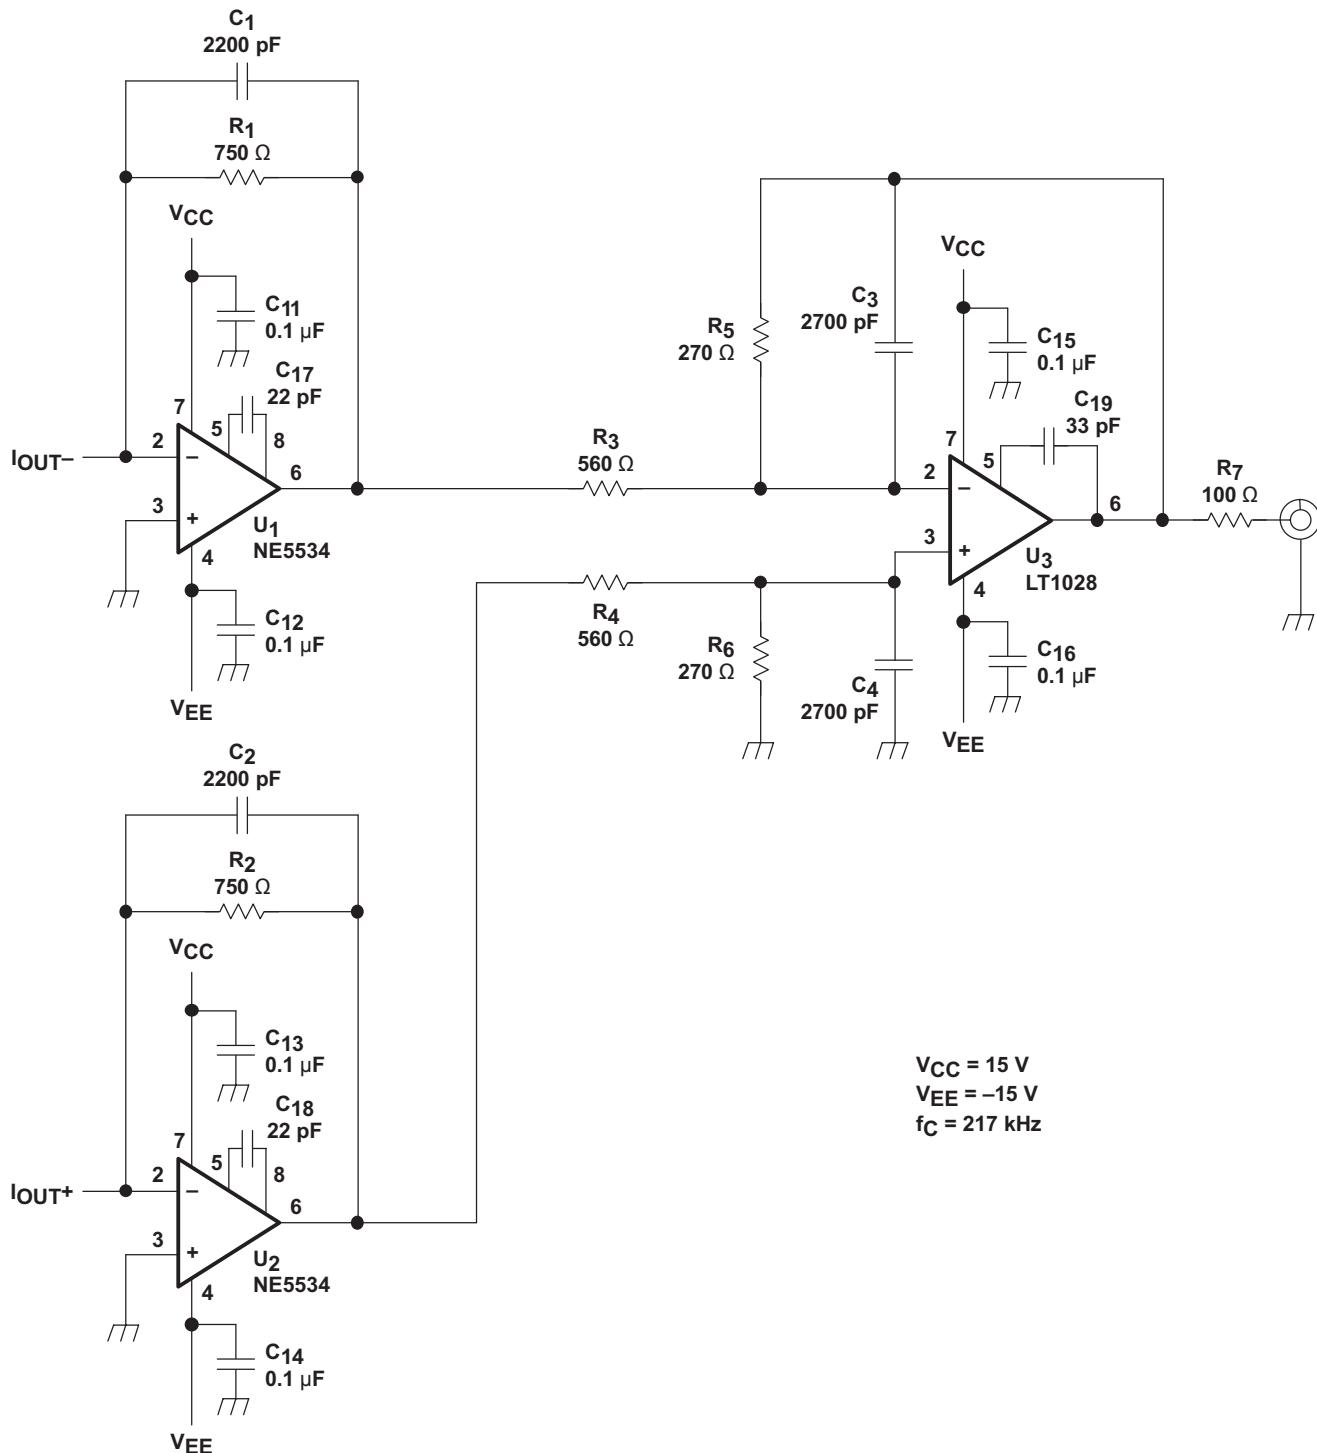
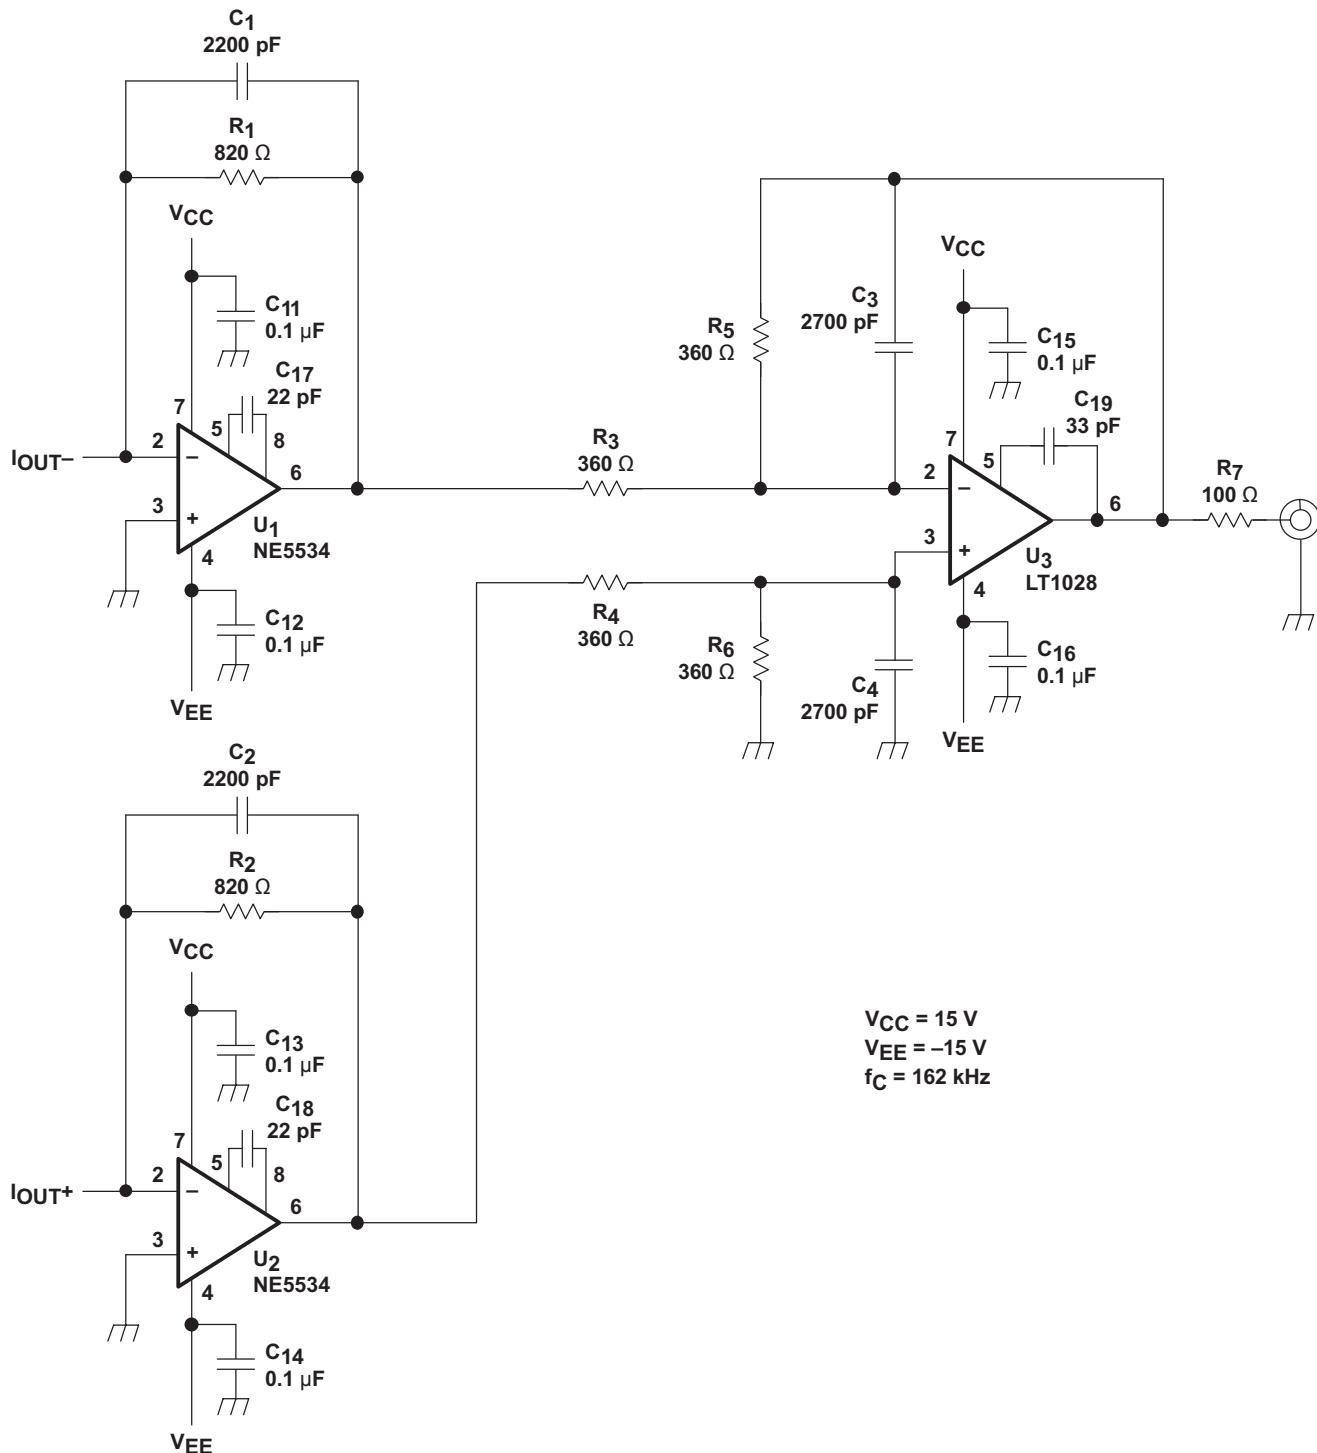
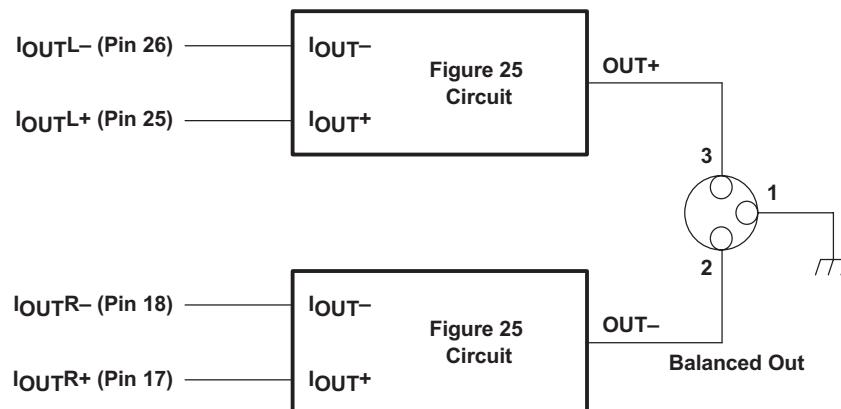

Figure 25. Measurement Circuit, $V_{OUT} = 2 \cdot V_{RMS}$
Figure 26. Measurement Circuit, $V_{OUT} = 4.5 \cdot V_{RMS}$
Figure 27. Measurement Circuit for Monaural Mode
(1) V_{OUTN} is the output of U1, V_{OUTP} is the output of U2, and V_{OUT} is the output of U3 in the measurement circuit of Figure 25.
With the use of the MONO pin, the PCM1794A can output either differential stereo audio, or differential mono audio. Figure 25 shows an example of stereo output. Figure 27 shows an example of mono mode.
In the circuit of Figure 25, the output level is 2-V_{RMS} , and 127-dB S/N is achieved. The circuit of Figure 26 should result in the highest performance. In this case the output level is set to $4.5\text{-V}_{\text{RMS}}$, and 129-dB S/N is achieved (stereo mode). In monaural mode, if the output of the L-channel and R-channel is used as a balanced output, 132-dB S/N is achieved (see Figure 27).
In this application, a PCM audio source is supplied to the device. A current output is produced and then converted to a voltage output in the I/V stage. The next stage in the output is a differential to single-ended amplifier stage with a low pass filter to reduce out of band noise. The f_c of the example circuits (Figure 26 and Figure 27) are shown in the example figures. Use Equation 2 to calculate the value of f_c .